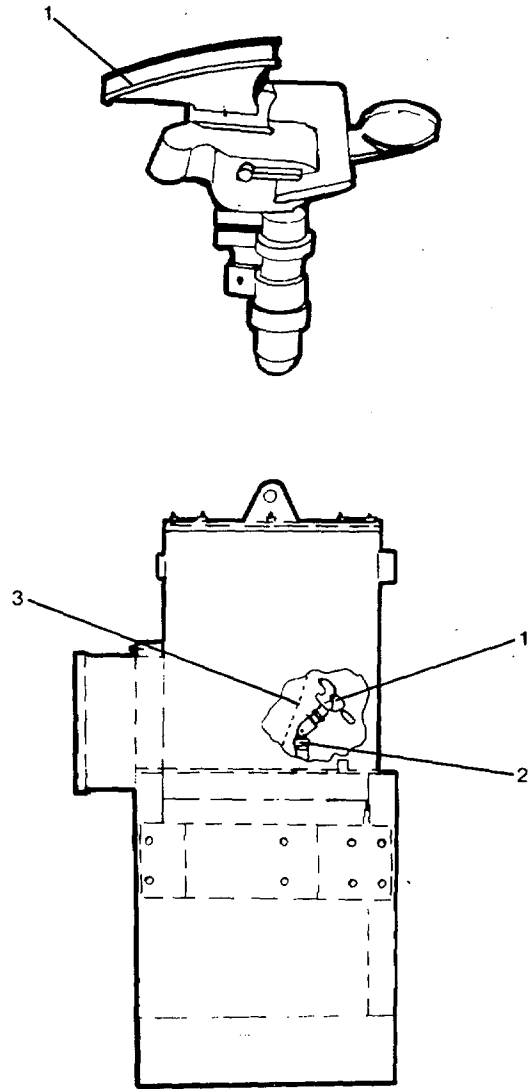

Figure 2-10. Impact Sprinkler (Inside Treatment Tank)
**2-15. Replace Impact Sprinkler. (FIGURE 2-10)**
The sprinkler head is located inside the treatment tank (1, FIGURE 2-10).
- b. Disconnect the sprinkler coupling (2). Remove the sprinkler (1).
- a. Apply Teflon lubricant to the pipe threads on the new sprinkler (1).
- b. Make sure the sprinkler is properly adjusted towards the retention/ reduction screen (3, FIGURE 2-10) when connecting the coupling.
- c. Connect the sprinkler coupling (2).
- d. Install the screen assembly (3) (paragraph 2-14).